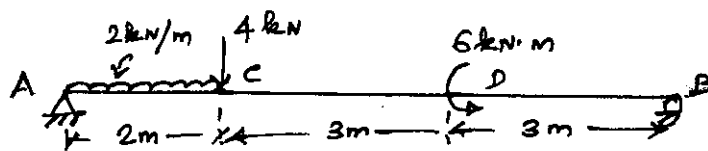

Fig 1
13. Draw BMD and SFD for the beam shown in figure. 1